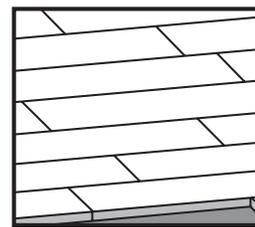

FIGURE 1.1 (CORRECT)
STEP 8: Avoid what our industry calls “clusters” by staggering the end joints by at least twice the plank’s width. Example: using a 3 ¼” wide plank would put the next row’s end joint no closer than 6 ½”. It will be impossible with some width do that. In this case, match the overall look. If available, the use of a Brad nailer is ideal to speed up the above face and blind nailing procedure. Ensure that there is a nail approximately 1-2” away from both ends of the board. Refer to figure 1.1 and 1.2